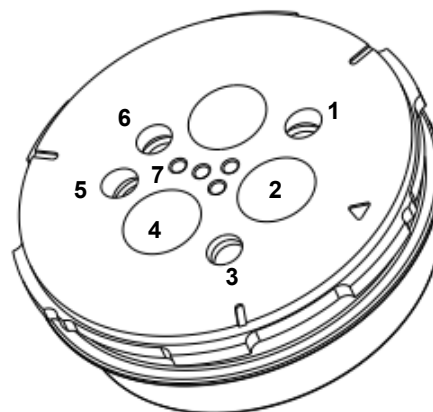

Figure 20: Distribution of different tubing and electrodes on the titration head WS3 for 150 mL beaker
3. Insert the rod stirrer from above into the position intended for this purpose (number 2 in Figure 20). Place the corresponding stirring propeller from below onto the rod stirrer coupling and connect the cable of the rod stirrer to the MDL socket of the main module.